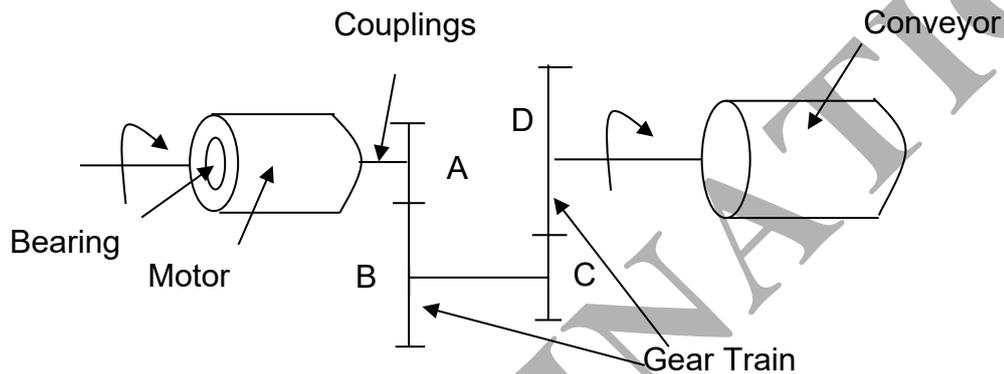

Fig 3(b) A conveyor system
- b) Explain the basic elements involved in a vibration diagnosis system, a typical such system can be seen in Fig 3(b). (6 marks)